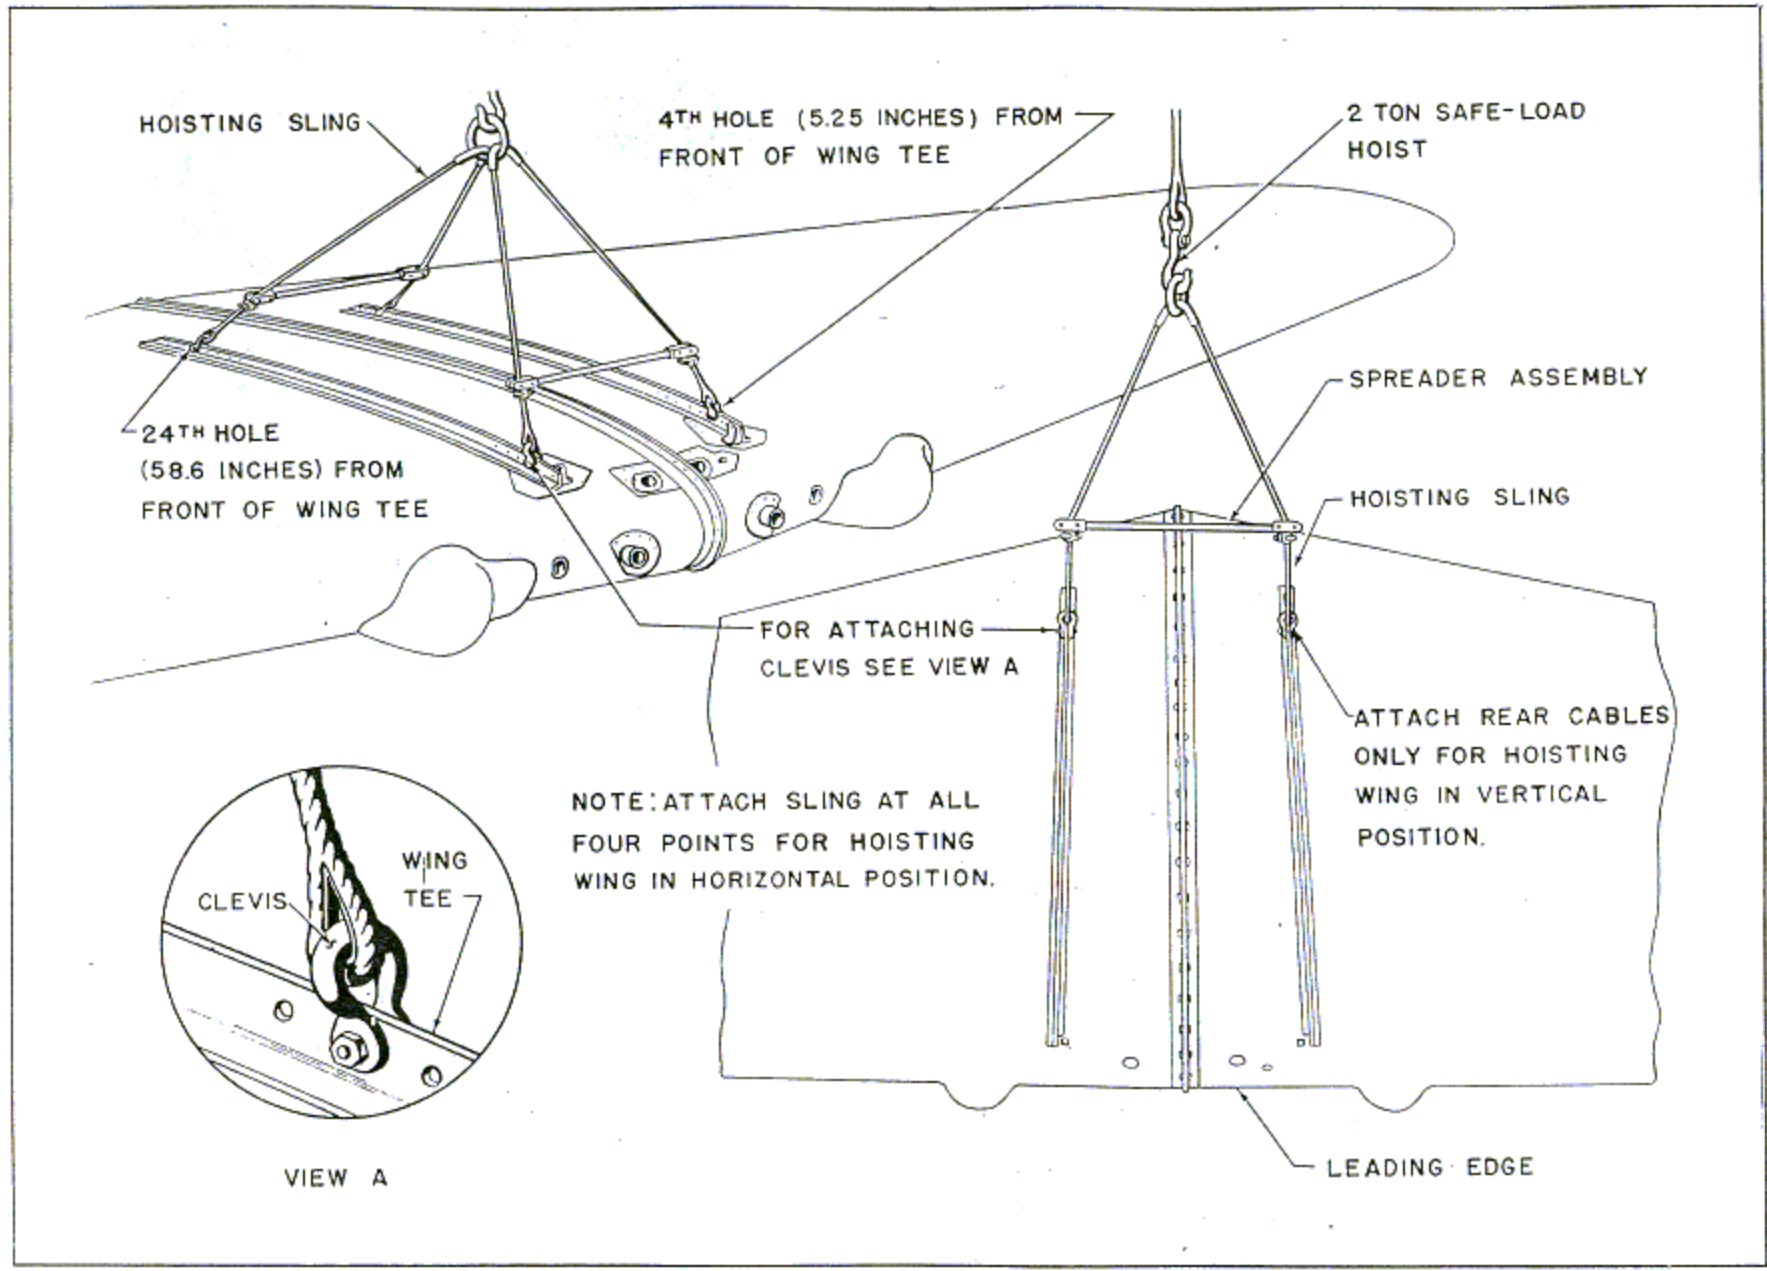

Figure 10—Wing Hoisting
c. WING HOISTING.—Attach the wing hoisting sling (part No. 87-88-509) to the panel. One hoisting sling is sent with every fifth airplane and the case containing the sling is marked on the outside. To attach the sling, secure the two sliding plates marked "REAR" to the rear of the panel tee sections. There are two studs in each plate. Match the stud marked "24TH HOLE" with the 24th hole from the front of the tee section. (See figure 10.) Do NOT attach the other two plates marked "FRONT". Hoist the wing clear of the crate in a vertical position. With about 20 men holding the leading edge, the wing may be lowered to a horizontal position and the two "FRONT" plates of the hoisting sling fastened in their respective positions. The stud marked "4th HOLE" should be inserted in the 4th hole from the front of the panel tee section. The wing should then be lowered to a wing cradle or some other support that will retain it in a horizontal position. The weight of the wing assembly is approximately 2600 pounds.